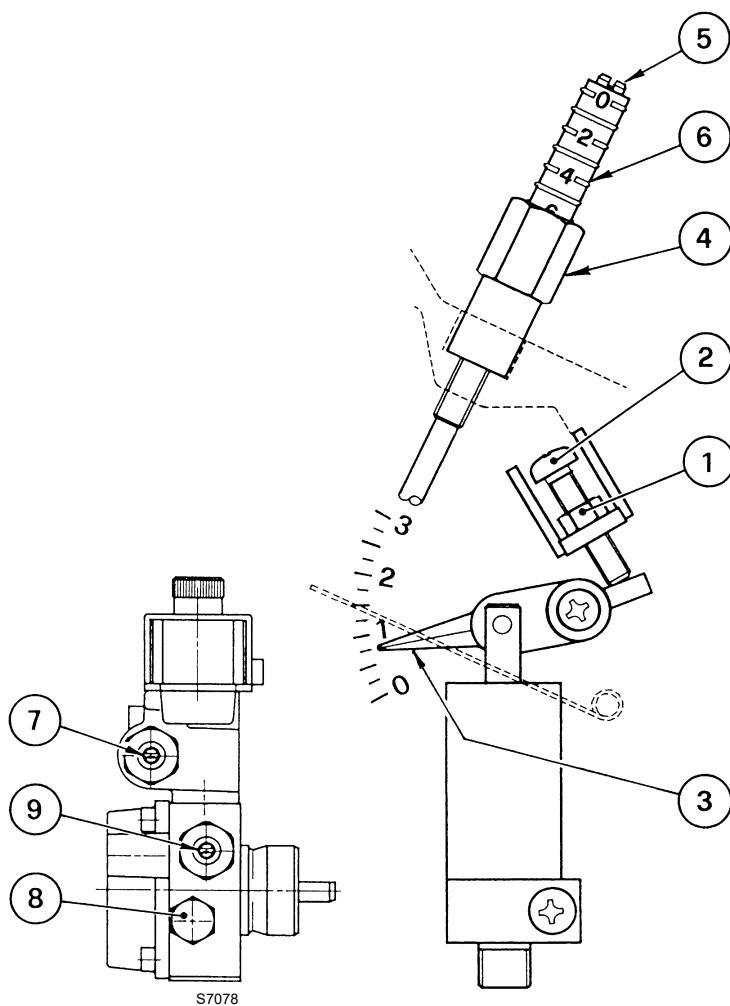

Fig. 10
- Loosen the nut 1)(Fig. 10), adjust the screw 2)(Fig. 10), and bring the indicator 3) to the required position.
- When the adjustment is completed screw in the nut 1)(Fig. 10).
If necessary recalibrate the pressure, or if you prefer change it, just turn the screw 7). The pressure gauge for checking pressure should be assembled in place of the plug 8)(Fig. 10).
- Loosen the nut 4)(Fig. 10), adjust the screw 5)(Fig. 10), and bring the indicator 6) to the required position.
- When the adjustment is completed screw in the nut 4)(Fig. 10) again.
If necessary recalibrate the pressure, or if you prefer change it, just turn the screw 9)(Fig. 10). The pressure gauge for checking pressure should be assembled in place of the plug 8)(Fig. 10). When burner shuts down the air damper automatically close still a max. chimney depression of 0.5 mbar.